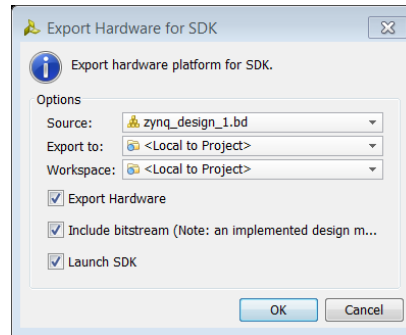

Figure 44: Export Hardware for SDK
3. Ensure that Export Hardware, Include Bitstream, and Launch SDK are checked (Figure 44).